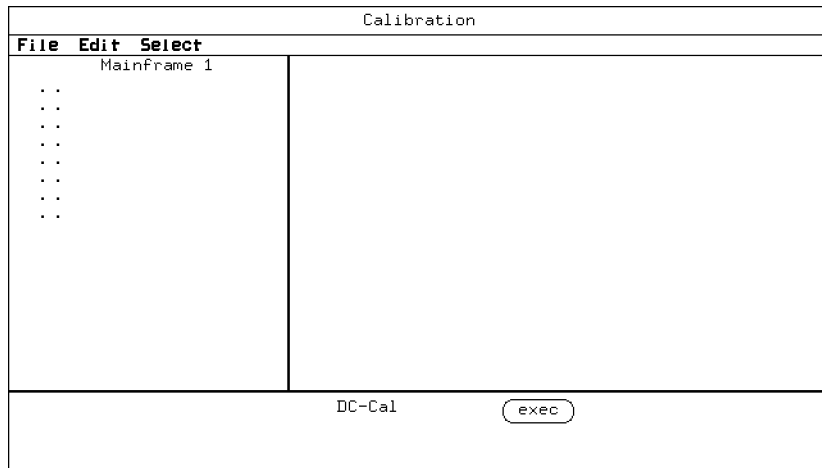

Figure 9-7. DC Calibration Window
3. Click **Select** and select DC-Cal from the pull-down menu. The DC Calibration screen will be displayed, as shown in Figure 9-7.